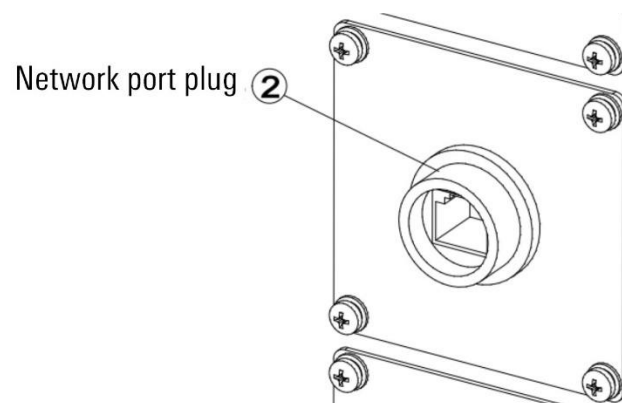

Figure 15-11 Network port plug
Step2. Install the network port plug (refer to Figure 15-11) on the network port plug installation plate.